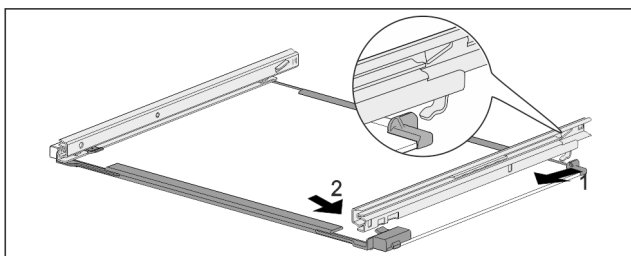

Fig. 167 Glass shelf with rails
- ▶ Hook in rail at the back. Fig. 167 (1)
- ▶ Hook in rail at the front. Fig. 167 (2)